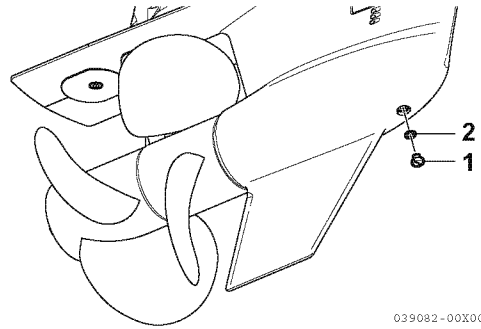

Figure 11
5. Remove the oil fill/drain plug (1, **Figure 11**) and gasket (2, **Figure 11**).